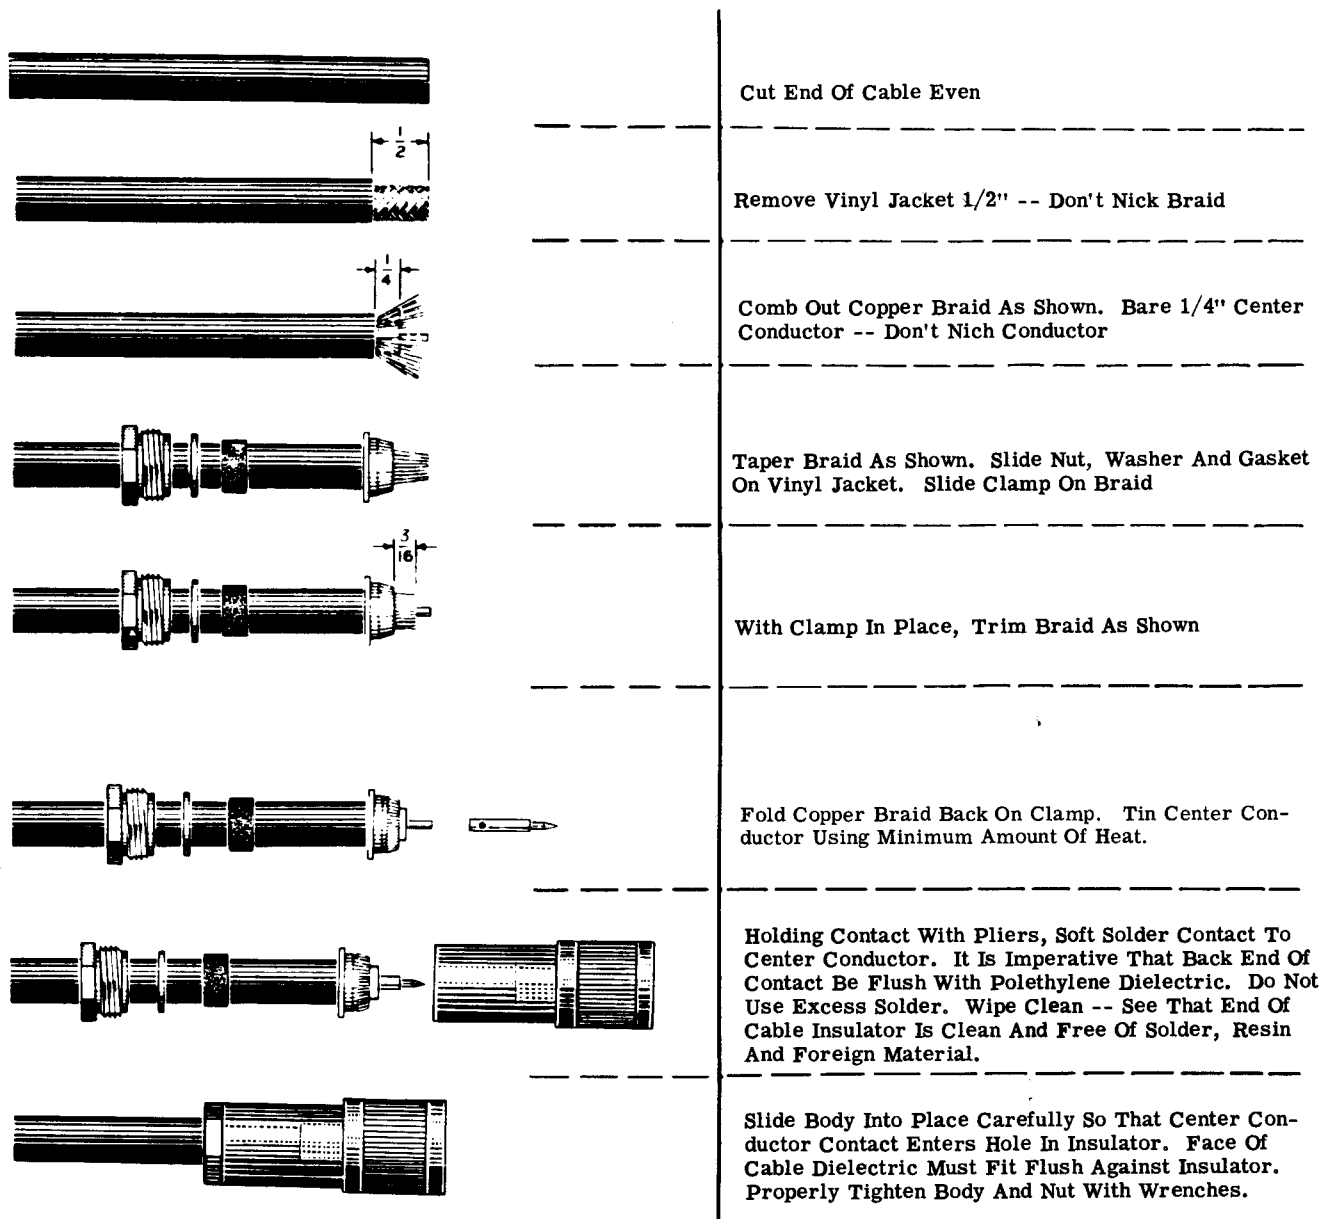

Figure 3-5. Cable Fabrication, UG-21B/U Plug
(2) PAN. (UG-88/U PLUG).—Use the same procedure as outlined for fabrication of I-F cable in the preceding paragraph.
(3) ANT (UG-21B/U PLUG).—Using a cable having an outside diameter of $\frac{3}{8}$ inch and a characteristic impedance of 70 ohms such as RG-12/U or equivalent and fabricate cable to plug according to the instructions in figure 3-5. If armored cable is used make certain that rear connector nut grips armor securely.